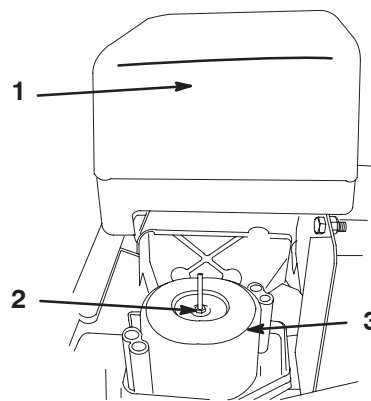

Figure 42
4. Remove the wingnut from the air cleaner cover and remove the cover (Fig. 42).
5. Remove the wingnut from the air filters and remove the filters (Fig. 42).